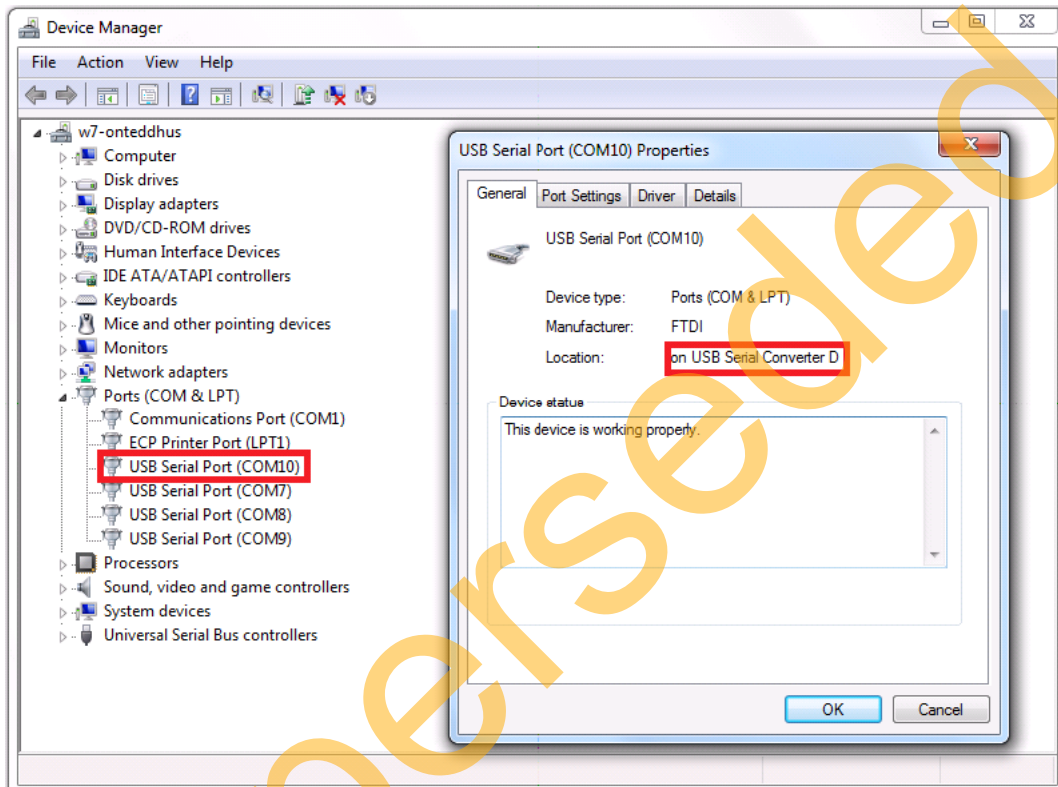

Figure 35 • Device Manager Window
2. Connect the host PC to the J18 connector using the USB Mini-B cable. The USB to UART bridge drivers are automatically detected. Of the four COM ports, select the one with Location as **on USB Serial Converter D**. Figure 35 shows an example Device Manager window.